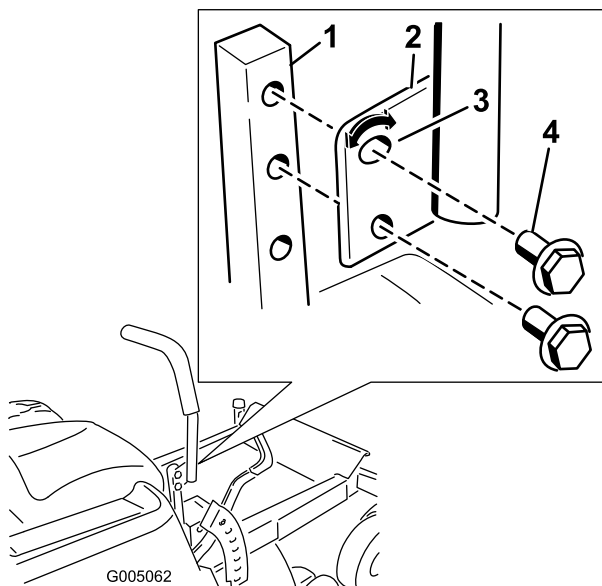

Figure 19
1. Remove the 2 bolts holding the control lever to the control arm shaft (Figure 19).
2. Move the control lever to the next set of holes. Secure the lever with the 2 bolts (Figure 19).
2. Loosen the lower bolt just enough to pivot the control lever fore or aft (Figure 19). Tighten both bolts to secure the control in the new position.